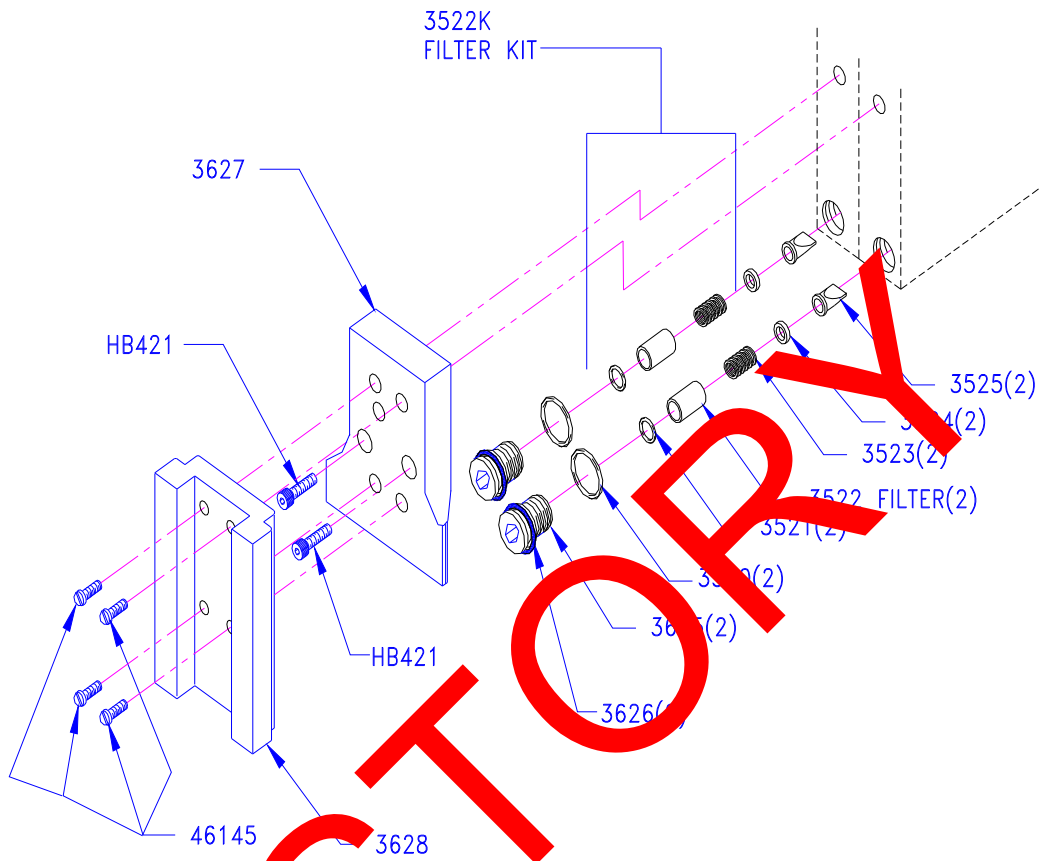

Figure 3
- Replace the internal sintered stainless steel filter (P/N 3522K in Figure 3) at least every 6 months or as needed.